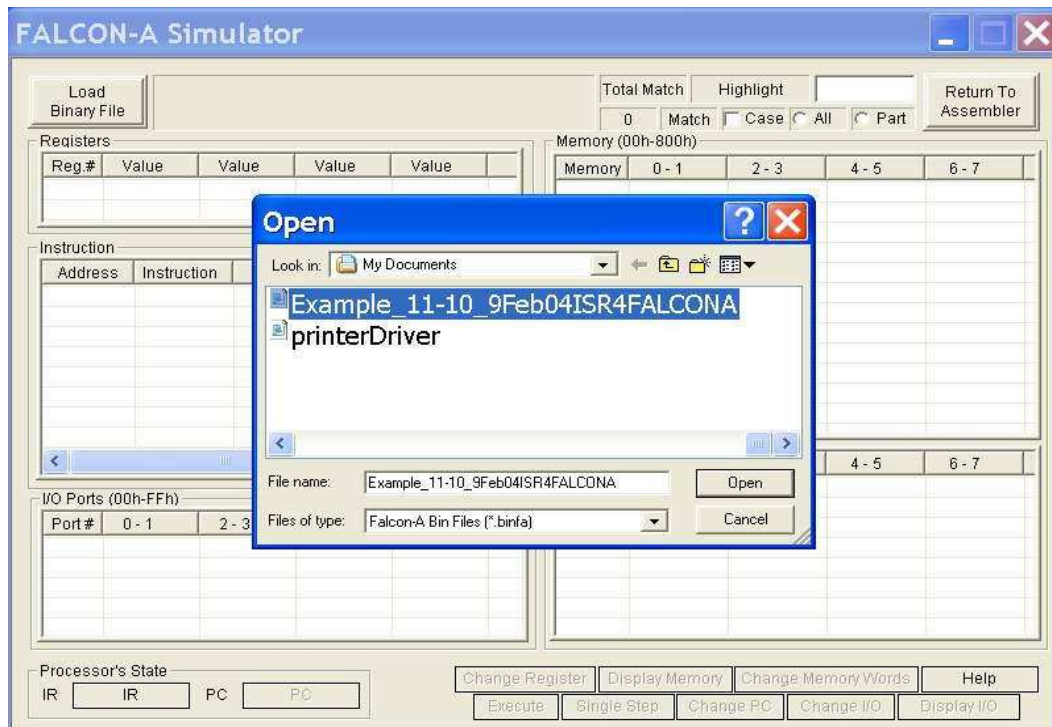

Figure 7
- Select the binary file to be simulated, and click Open as shown in Figure 7. (It is also possible to open the file by double clicking on the file name in the “Open” window).